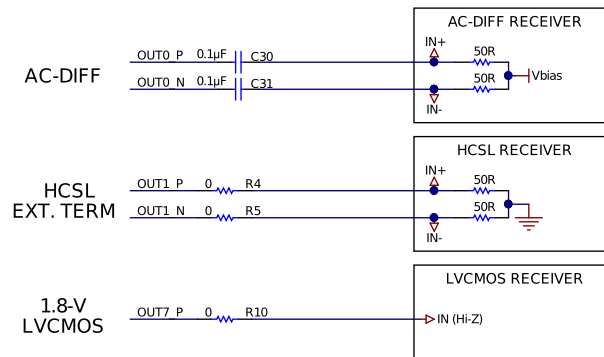

FIG 64. LMK05318 Reference Schematic Example
Figure 64 shows a reference schematic to help implement the LMK05318 and its peripheral circuitry. Power filtering examples are given for the core supply pins and independent output supply pins. Single-ended LVCMOS, AC-coupled differential, and HCSL clock interfacing examples are shown for the clock input and output pins. An external LVCMOS oscillator drives an AC-coupled voltage divider network as an example to interface the 3.3-V LVCMOS output to meet the input voltage swing specified for the XO input. The required external capacitors are placed close to the LMK05318 and are shown with the suggested values. External pullup and pulldown resistor options at the logic I/O pins set the default input states. The I²C or SPI pins and other logic I/O pins can be connected to a host device (not shown) to program and control the LMK05318 and monitor its status. This example assumes the device will start up from EEPROM mode with an I²C interface (HW_SW_CTRL = 0).
- For a 3.3-V LVCMOS driver, follow the OSC clock interface example in Figure 64. Power the OSC from a low-noise LDO regulator or optimize its power filtering to avoid supply noise-induced jitter on the XO clock.
- Reference inputs: Follow the LVCMOS or differential clock input interface examples in Figure 64 or Clock Input Interfacing and Termination.
- Clock output Interfacing: Follow the single-ended or differential clock output interface examples in Figure 64 or Clock Output Interfacing and Termination.
- Power all the VDD pins with proper supply decoupling and bypassing connect as shown in FIG 64.